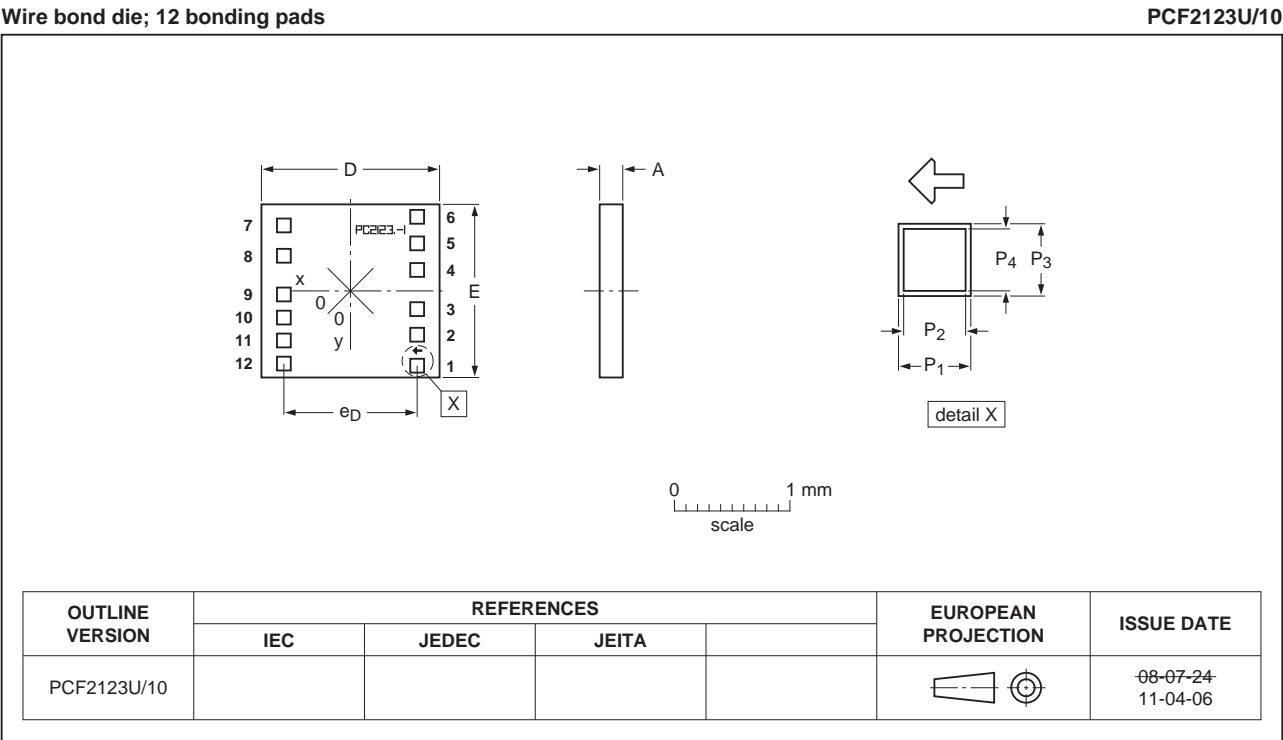
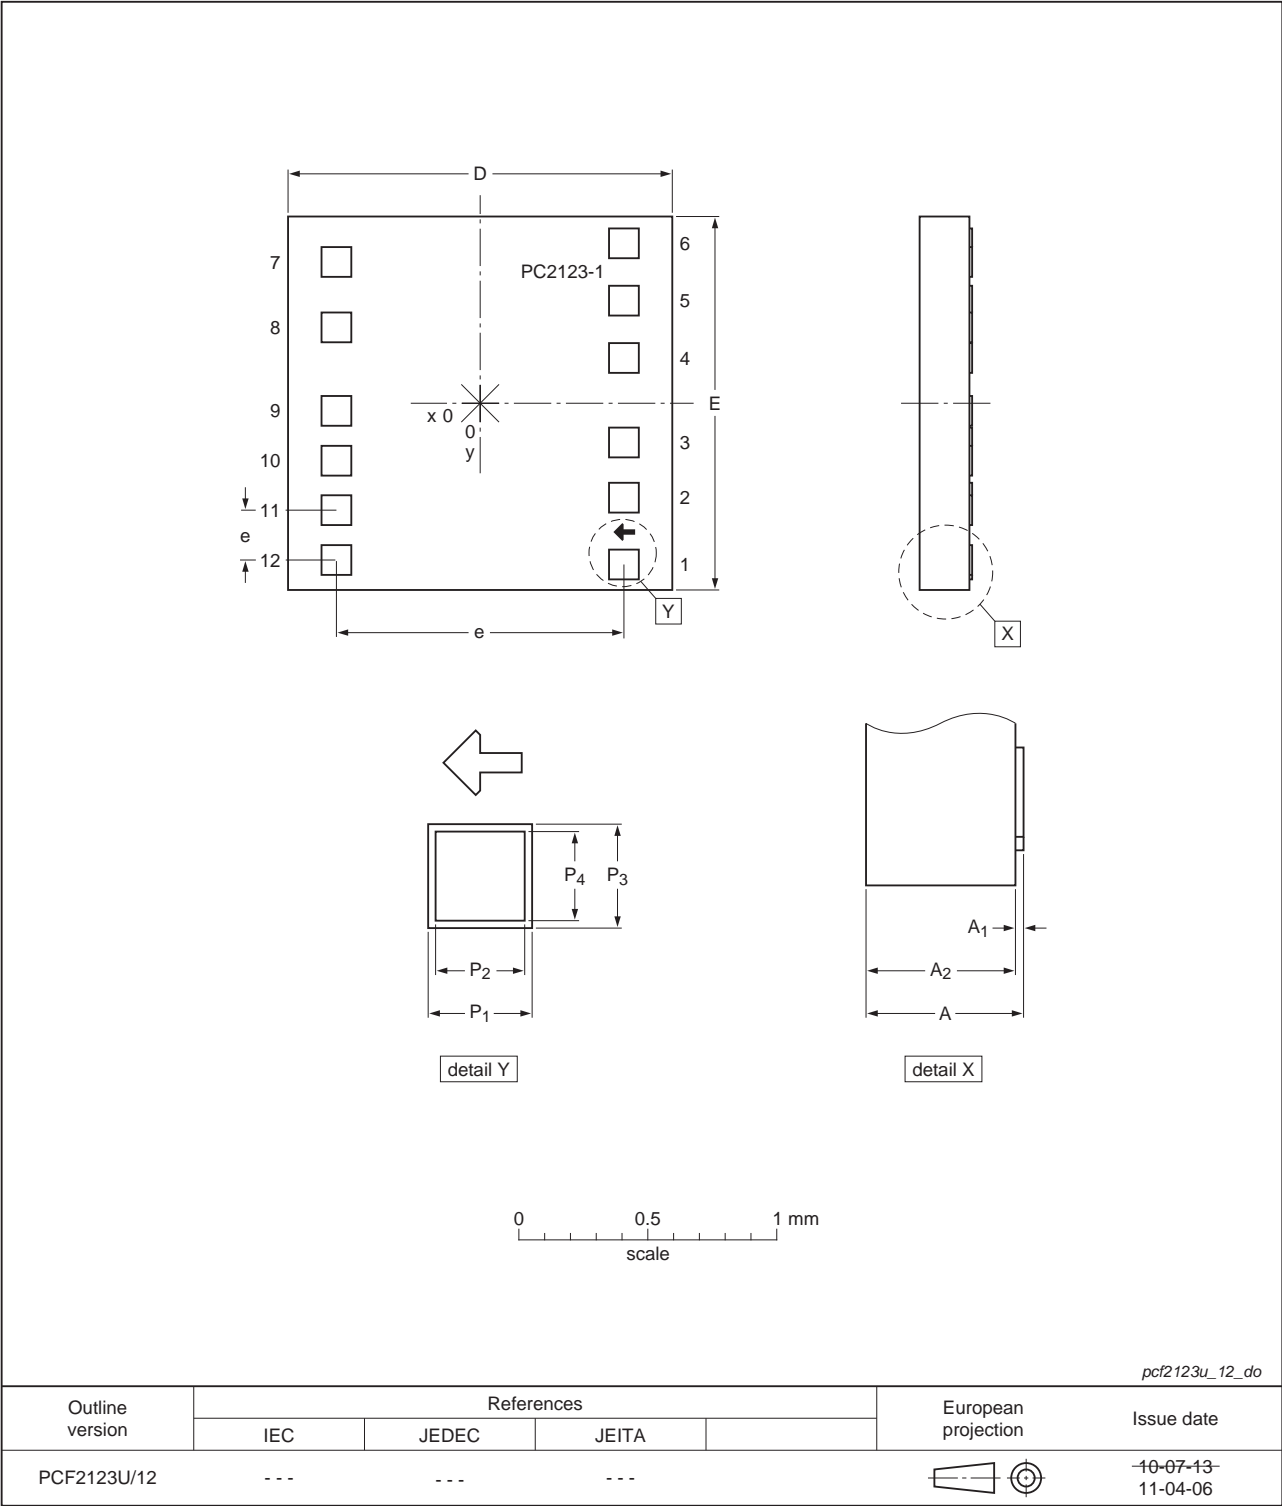
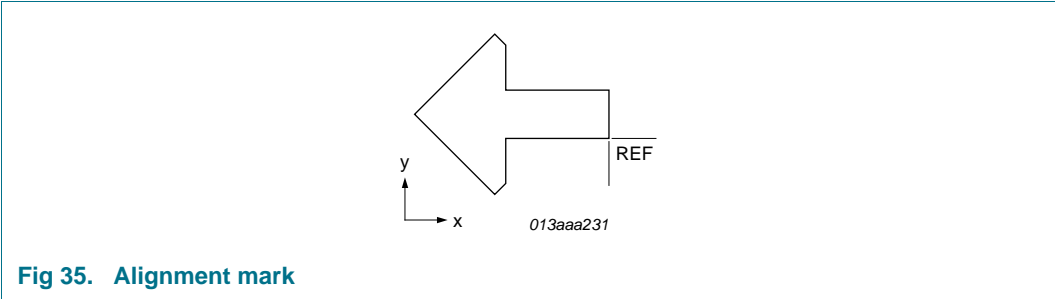

Fig 33. Bare die outline PCF2123U/10 of PCF2123U/5GA/1 and PCF2123U/10AA/1 (for dimensions see Table 47)
Fig 34. Bare die outline PCF2123U/12 of PCF2123U/12AA/1 and PCF2123U/12HA/1 (for dimensions see Table 48)
Fig 35. Alignment mark
[3] P₁ and P₃: pad size.[4] P₂ and P₄: bump size.**Table 49. Bump locations of all PCF2123U types**All x/y coordinates represent the position of the center of each pad with respect to the center (x/y = 0) of the chip; see Figure 33 and Figure 34.
- [1] The x/y coordinates of the alignment mark location represent the position of the REF point (see Figure 35) with respect to the center (x/y = 0) of the chip; see Figure 33 and Figure 34.
- [2] The x/y values of the dimensions represent the extensions of the alignment mark in direction of the coordinate axis (see Figure 35).